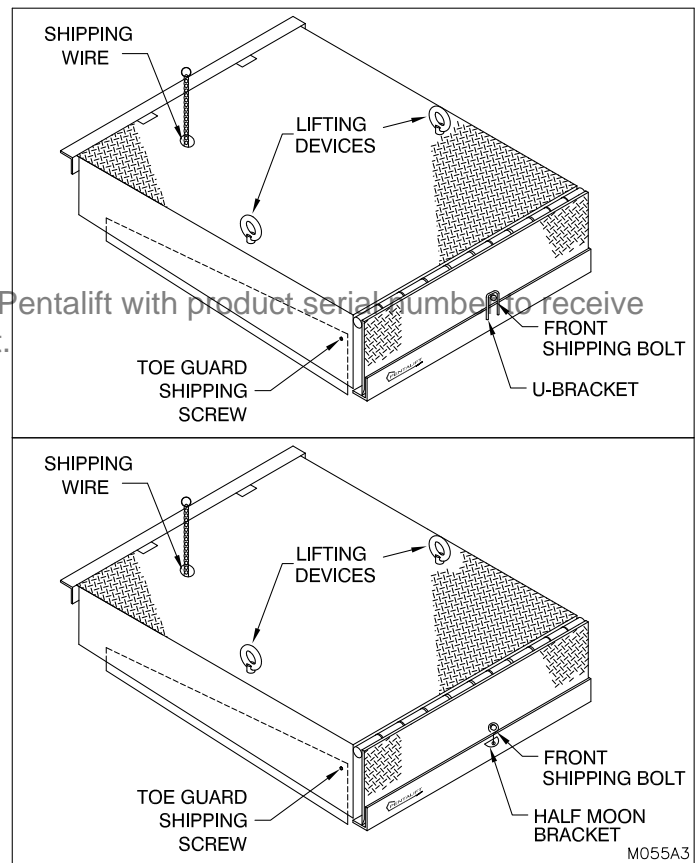

Figure 16: Hoist Leveler with Chain
4. Hoist the leveler into the pit with chain using appropriate lifting devices (See Figure 16: Hoist Leveler with Chain on page 11) and position the leveler into the pit opening.
5. Assure that 1" clearance is maintained between the side of the leveler platform and the side pit wall and that the rear angle of the dock leveler is firmly against the rear curb angle of the pit (See Figure 16: Hoist Leveler with Chain on page 11).
7. Weld the rear angle of the dock leveler to the rear curb angle of the pit, 1" wide butt weld, at the location of each tilt bar pocket (2 places). (See Figure 16: Hoist Leveler with Chain on page 11).